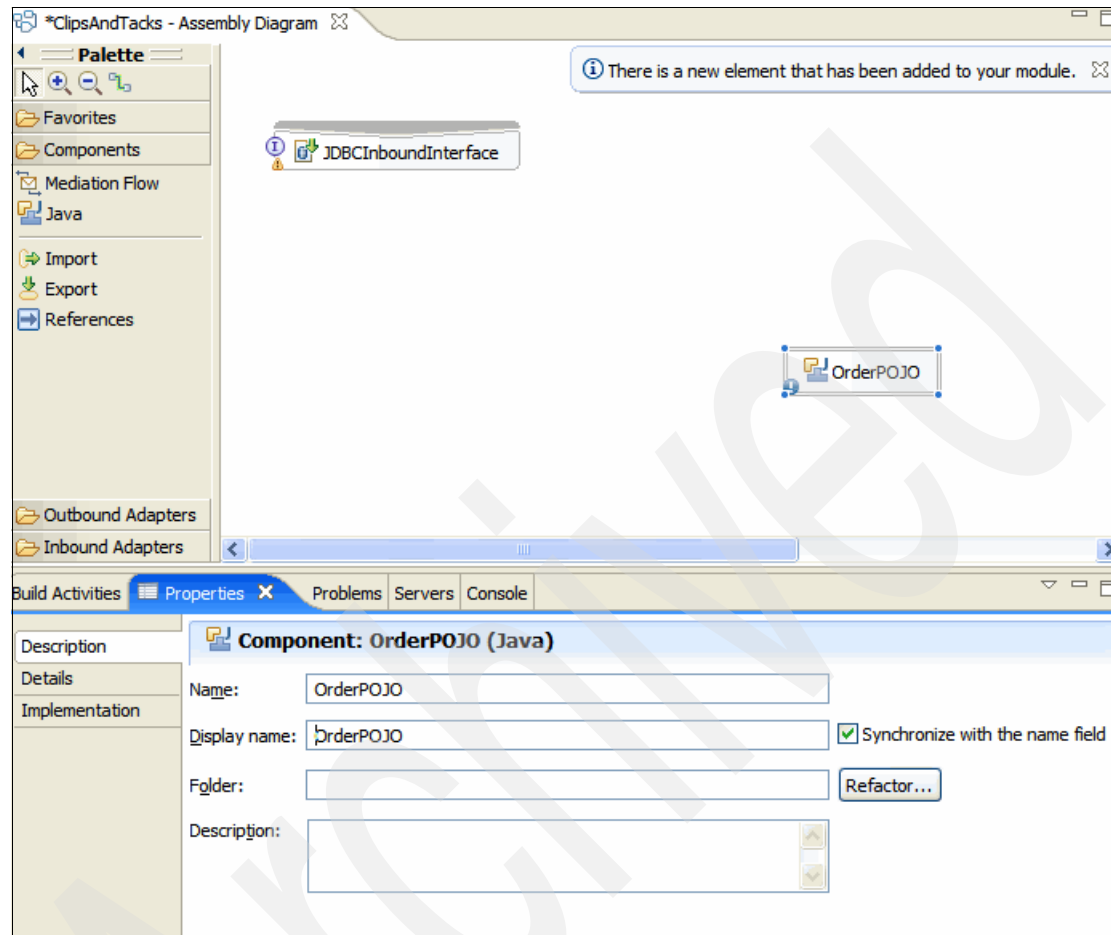

Figure 6-18 Renaming the Java component
2. Click the **Properties** tab (Figure 6-18). For Name, type OrderPOJO.